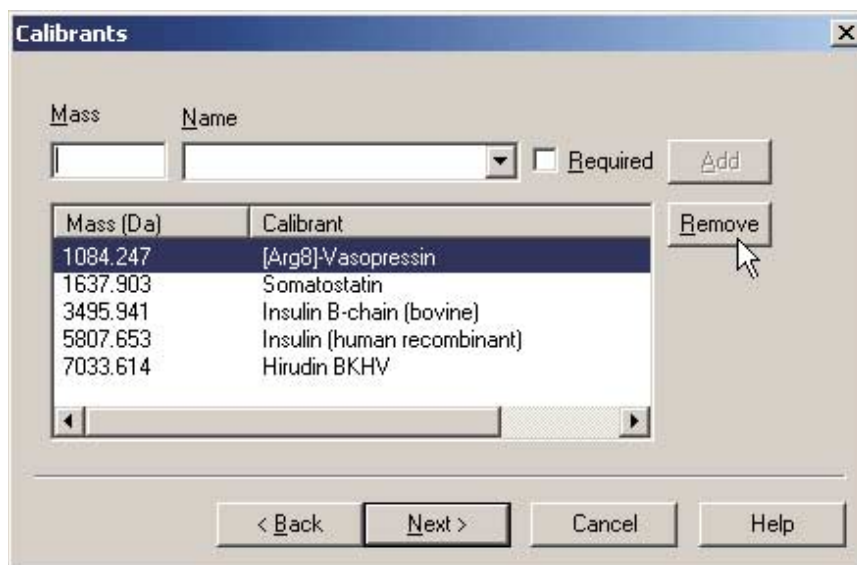

Figure 3-6: Removing a calibrant from the calibration protocol.
- Repeat this process to add each of the following calibrants: Somatostatin, Insulin B-chain (bovine), Insulin (human recombinant), and Hirudin BKHV. The selected calibrants will be displayed in the scrolling field in the middle of the **Calibrants** dialog. If you include a calibrant by mistake, remove it by selecting it and clicking the **Remove** button (Figure 3-6).